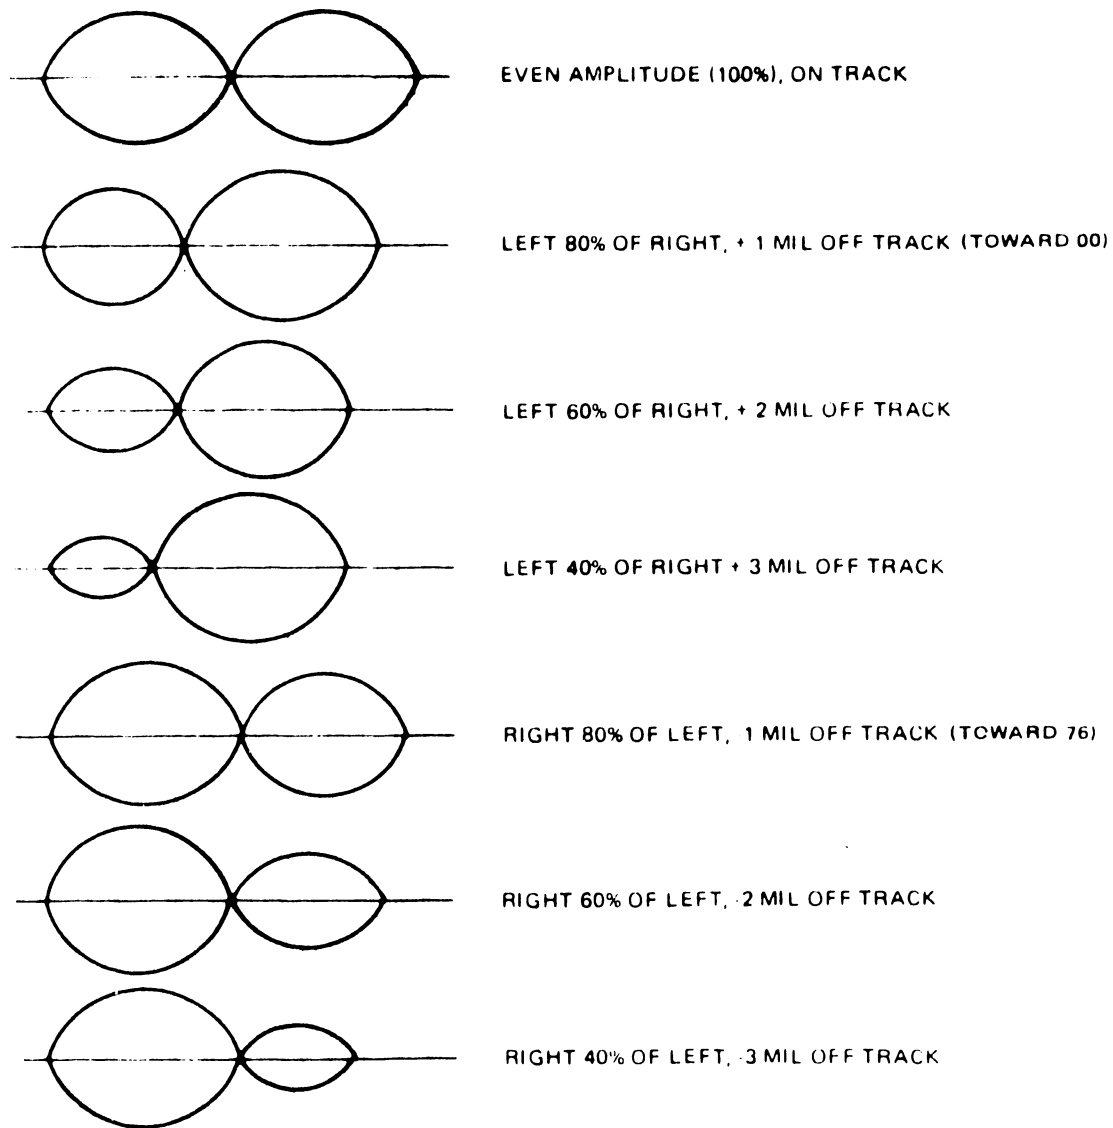

Figure 7 R/W Head Radial Alignment
- e. The two lobes must be within 80% amplitude of each other (Refer to Figure 7). If the lobes do not fall within the specification, continue on with this procedure. If correct proceed to the Track 00 Detector Adjustment procedure in Paragraph 4.6.